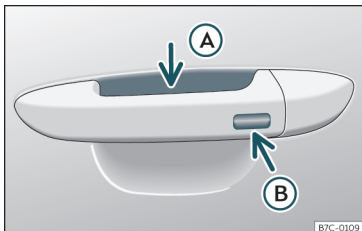

Fig. 119 Driver door lever: sensor surfaces.
- Press and hold the locking sensor surface >>> Fig. 119 (B) on the door handle to close the sunroof. If you release the sensor surface, the closing movement stops.